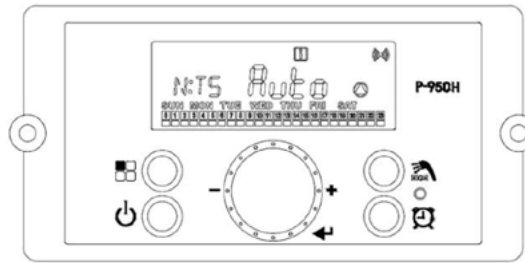

Figure 49 - Recirculation Programming Screens
- Press the  button at the "Auto" screen to select the Smart Auto-Learn Recirculation Function. See Figure 49.